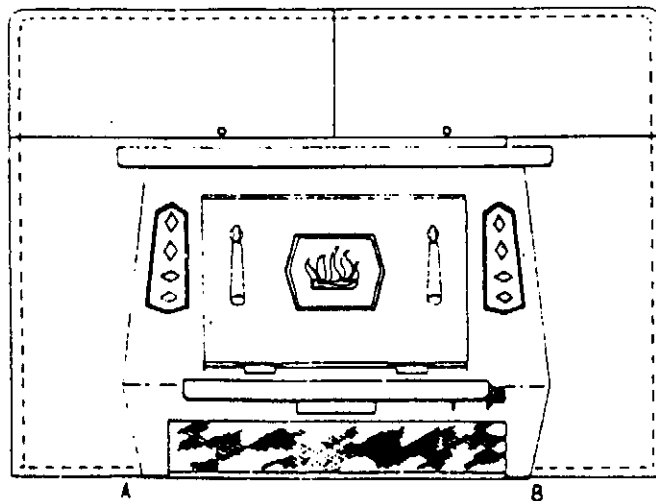

Fig. 7 A B
10. Insulation, furnished, must be placed around the entire perimeter of the shroud back to form a seal between the shroud and the fireplace face. Using a high temperature silicone sealant (not furnished) such as "G.E. Silicone Sealant" or the equivalent, run a bead about 1" in from the edge of the shroud at point "A" around the perimeter to Point "B" (see Figure 7). Apply the insulating material just in from the edge, sticking it to the silicone, allowing no gaps or skips. A complete seal must be obtained between shroud and fireplace or the insert will not draw properly, causing smoking and inefficient burning, among other problems.